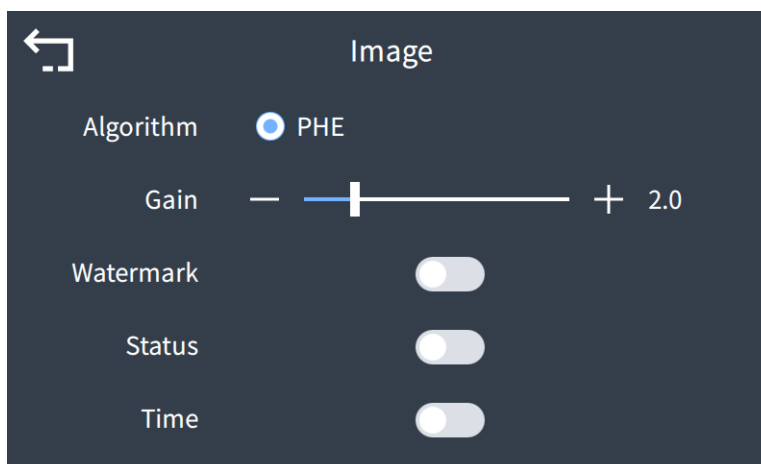

Figure 4.5 Image Settings
(2) Dynamic adjustment of temperature width
Step 3: Touch or press the physical button to switch to "Image Settings", and press the physical "OK" button to enter the image setting interface (Figure 4.5), and adjust the gain level (PHE: plateau histogram equalization algorithm (PHE), algorithm type).